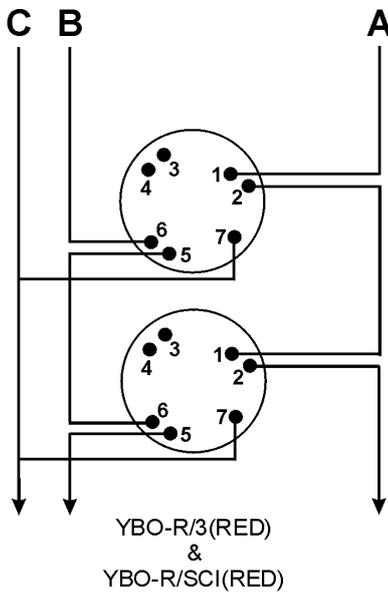

Fig. 4
- For proper wiring supervision ensure that the cables are wired as shown in Fig 4.
Fix the mounting base to the required surface using appropriate fixings. For correct wiring of the each base type, refer to Fig. 4.
Please refer to Fig. 4 for wiring the Red Standard Mounting Base (YBO-R/3(RED)) and the Red Short-Circuit Isolator Mounting Base (YBO-R/SCI(RED)):